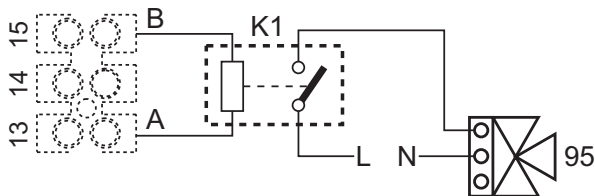
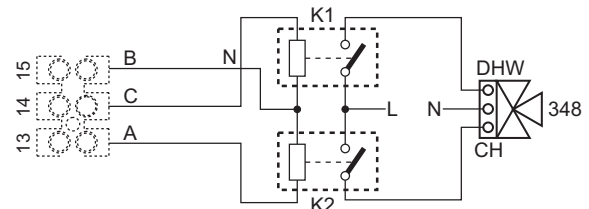

fig. 89- Connection of the 3-way valve with 2 wires
fig. 90- Connection of the 3-way valve with 3 wires
**ATTENTION:** To connect the 3-way valve (terminals 13 - 14 - 15), refer to the diagrams of fig. 89 and fig. 90.